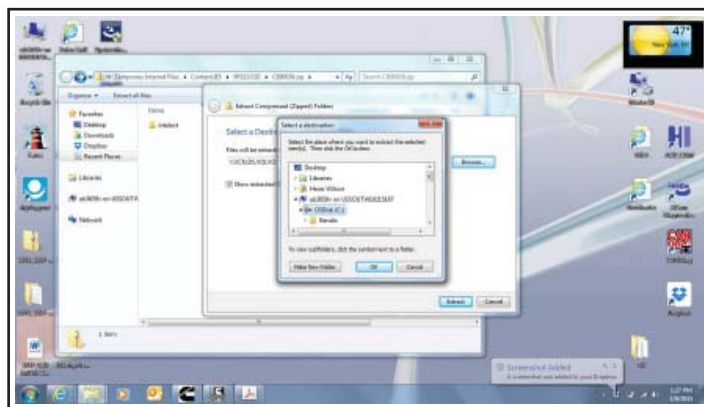

Figure 9 - Selecting C: Drive
1.9. Click on C: drive. See Figure 9.